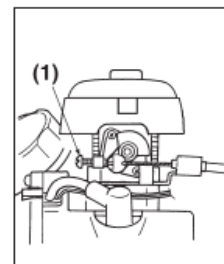

FIG. 6
- 1. When the engine tends to stop frequently at idling mode, turn the idle set screw clock-wise. (Fig. 6)